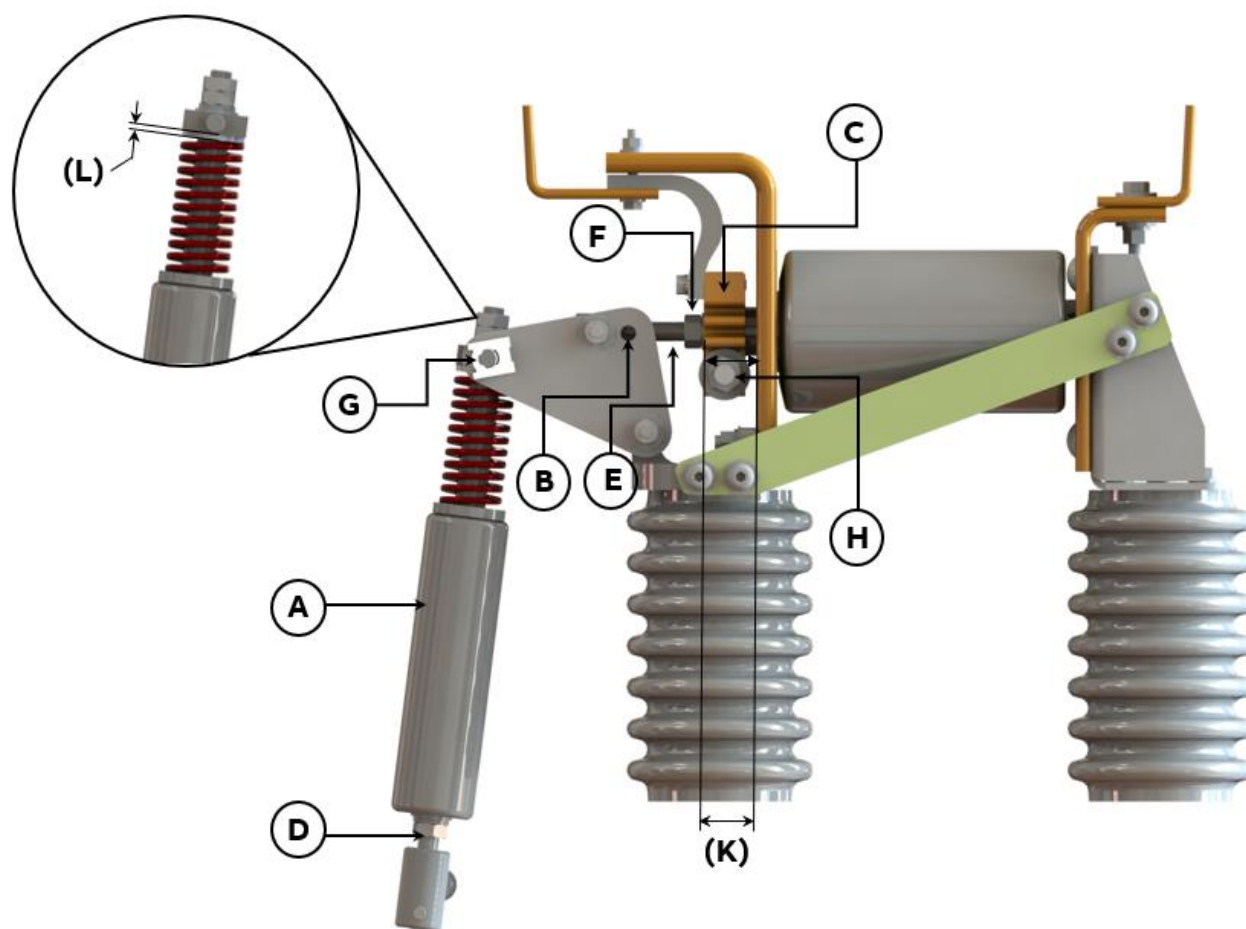

Figure 17 - Contact travel and over-travel adjustment 15.5kV 1250A
- c) .500-13 contact block* 65-80 ft-lbs (Figure 17 - C)